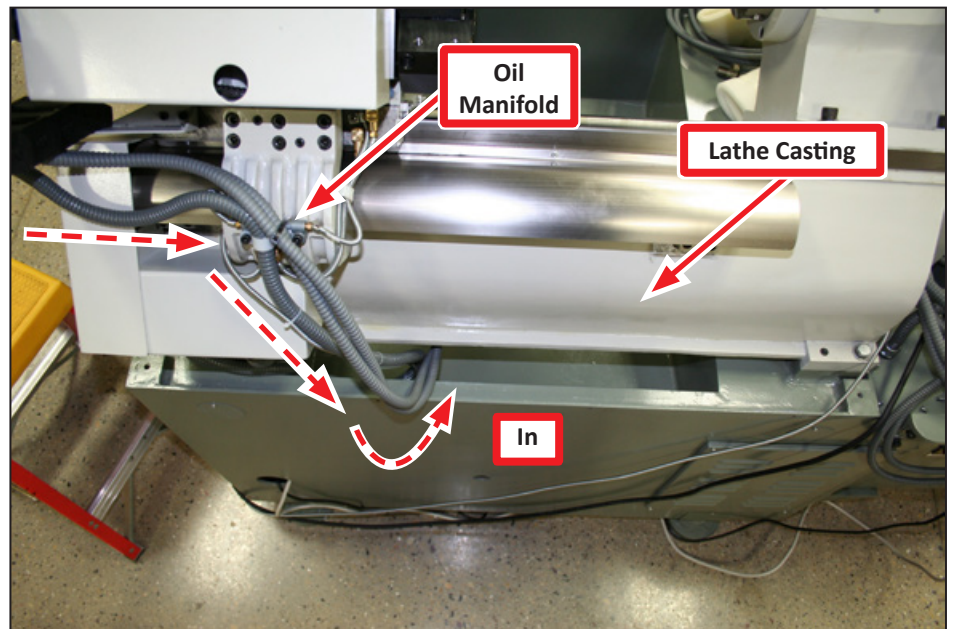
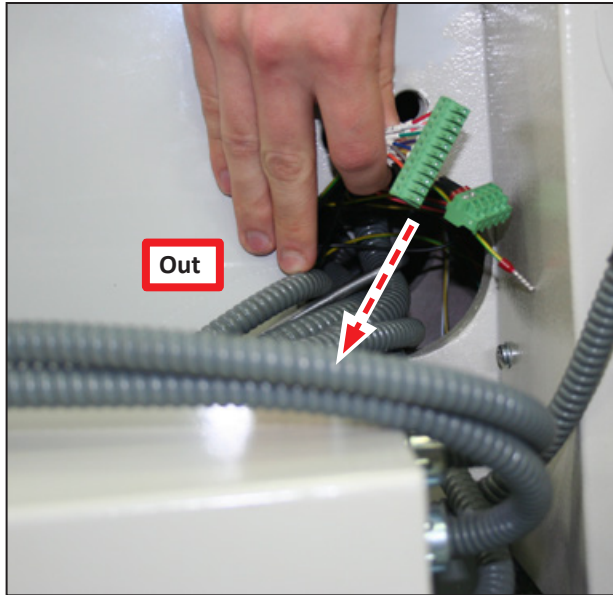
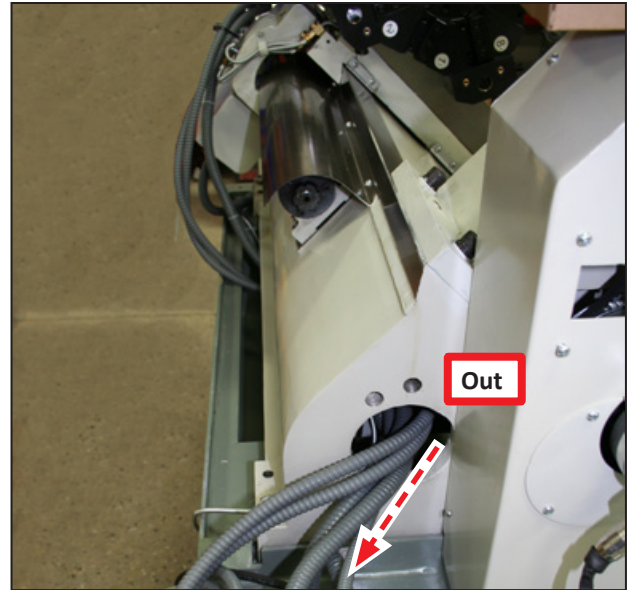

Figure 6
Figure 7
Figure 8
3. Use one Cable Tie to attach the Turret Harness to the Oil Manifold (see **Figure 6**).
4. Route the Turret Harness into the Lathe Casting (see **Figure 6**) and out through casting hole on the opposite side of the lathe (see **Figure 7** and **Figure 8**).